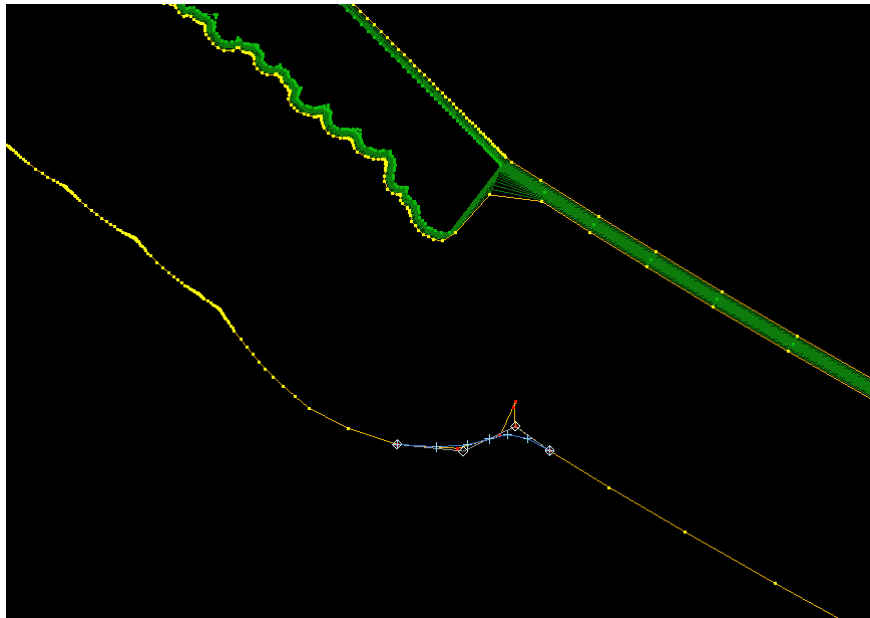

Figure 33. Smoothing out the crease in the wrap-around block of the flap.
- In the *Change Free Form* window, set the number of control points to 4, and move the control points to smooth out the crease, as in Figure 33.